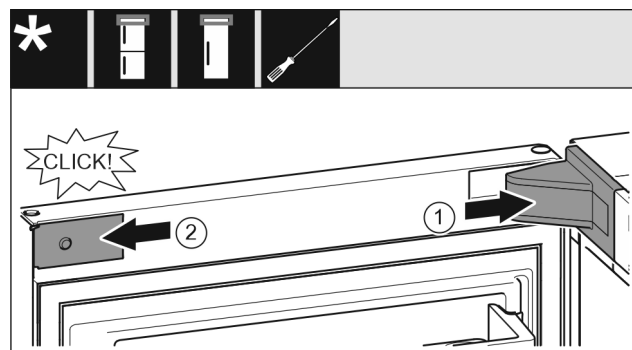

Fig. 22
- Position the bearing bracket cover and engage it. If necessary push it apart carefully. Fig. 22 (1)
- Position the panel on the side and latch into place. Fig. 22 (2)